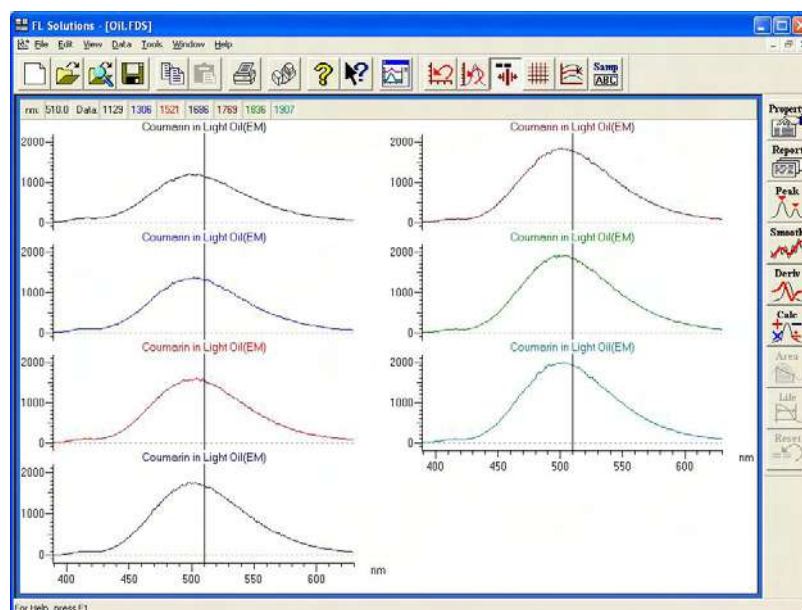

Fig. 8-21
- **Tile** : Spectra are displayed separately in the vertical and horizontal direction. For example, 16 spectra are displayed in 4 rows × 4 columns and 15 spectra in 5 rows × 3 columns. (Refer to Fig. 8-21.)